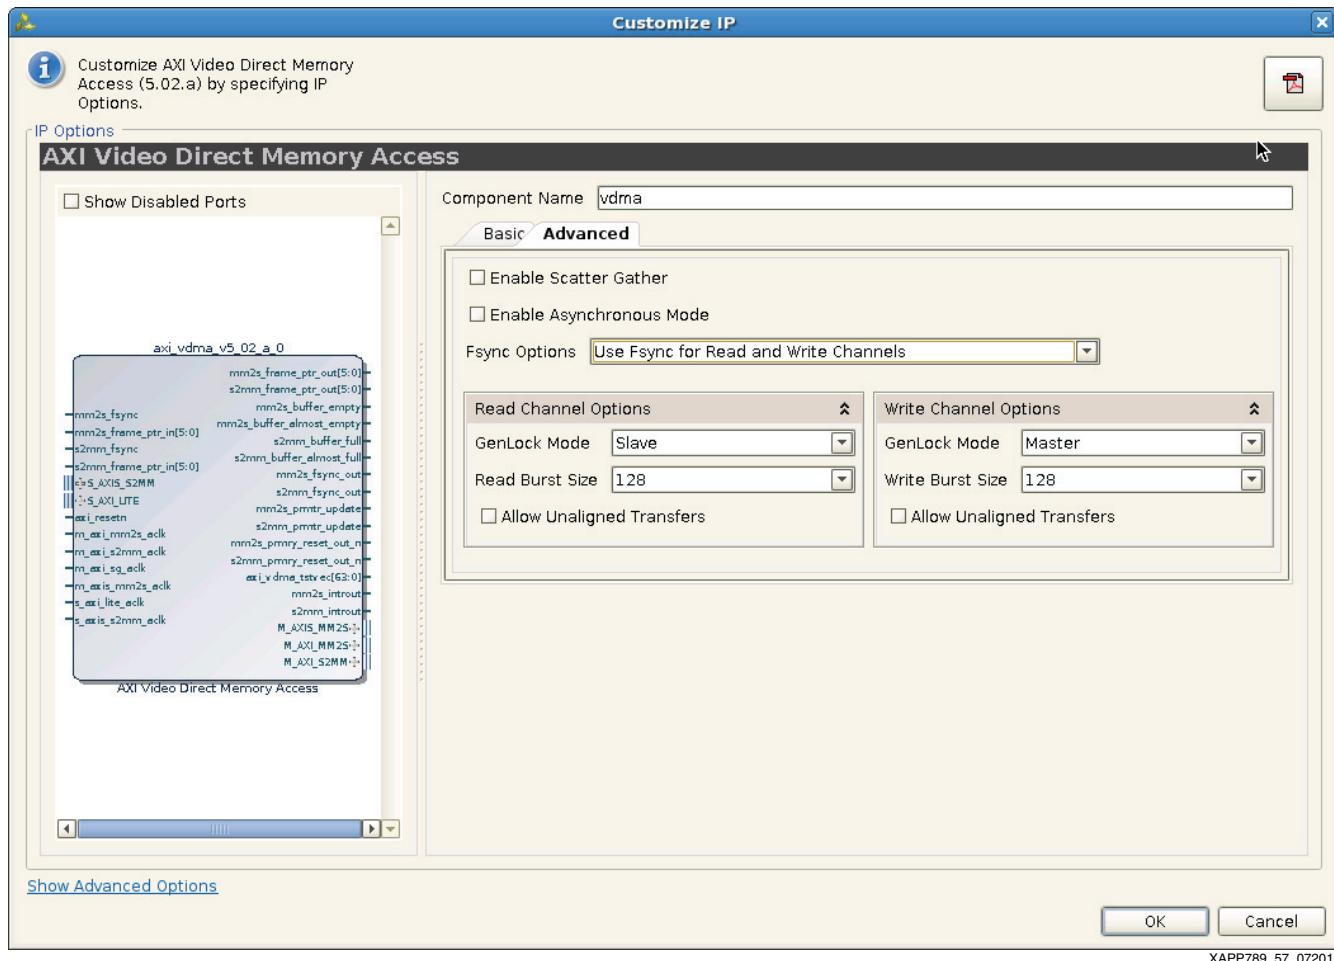

Figure 57: AXI VDMA Advanced Settings
50. Make the following settings in the VDMA Advanced tab, then click **OK** to generate the core. (Figure 57):